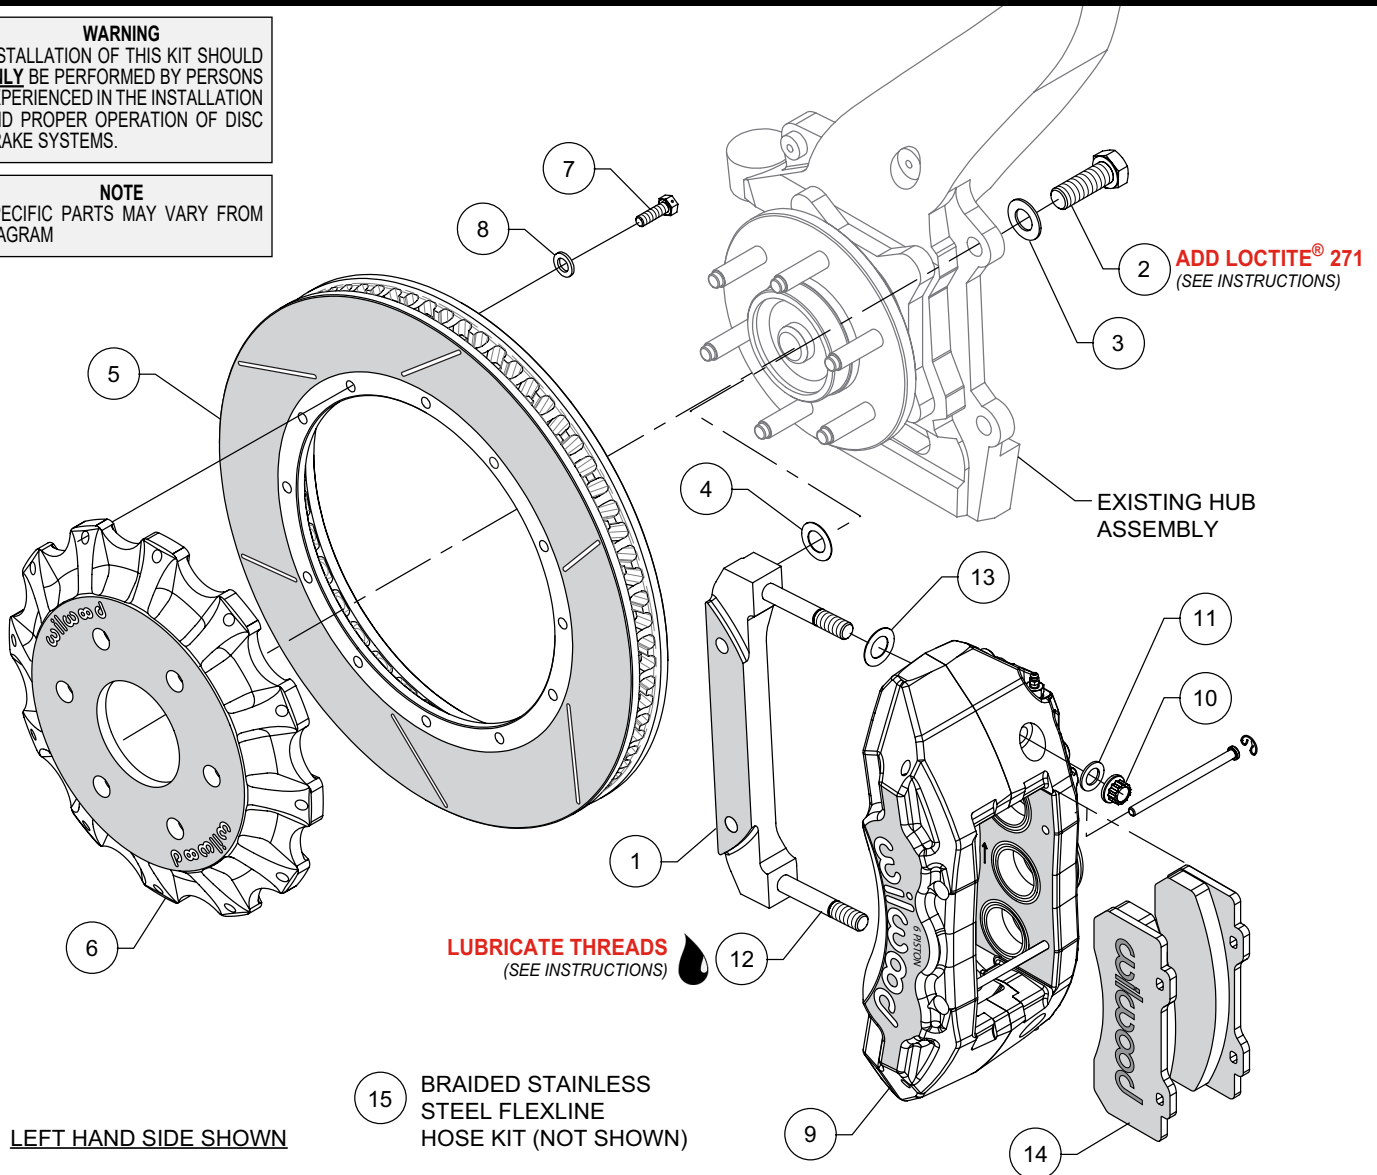
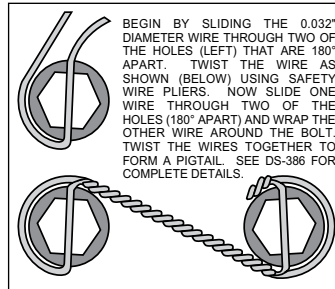

Figure 1. Typical Installation Configuration
Figure 3. Safety Wire Diagram
NOTE: Numbers in parenthesis refer to the parts list and Figure 1 on the preceding pages.
- The caliper mount bracket (1) should initially be installed with clean, dry threads on the mounting bolts. Orient the bracket as shown in Figure 1 and Photo 1, and install using bolts (2) and washers (3). Initially place one .029 thick shim (4) on each bolt between the bracket and upright, Figure 1. Temporarily tighten the mounting bolts. **NOTE:** *The bracket must fit squarely against the mount bosses on the upright.* Inspect for interference from casting irregularities, machining ridges, burrs, etc. Later, after the caliper alignment has been checked, the mount bolts will be secured using red *Loctite*® 271.
- Orient the rotor (5) and the hat (6) as shown in Figure 1 and Photo 2. Attach rotor to hat using bolts (7) and washers (8). Torque bolts to 25 ft-lb using a criss-cross pattern. For an added measure of security, the bolts may be safety wired using standard 0.032 inch diameter stainless steel safety wire as shown in Figure 3. Refer to Wilwood's data sheet DS-386 (available at www.wilwood.com/Pdf/DataSheets/ds386.pdf) for complete safety wire installation instructions.
- NOTE:** *This kit contains distinct right and left hand calipers that must be mounted in a specific direction, as described below.* Lubricate the caliper mounting studs (12) with lightweight oil. Mount the caliper (9) onto the bracket (1) using lock nuts (10) and washers (11), Figure 1. Ensure that the caliper is mounted so that the largest pistons are at the rotor exit end of the caliper, in relation to the direction of rotor rotation. Temporarily tighten the lock nuts and view the rotor through the top opening of the caliper. The rotor should be centered in the caliper, Photo 3. If not, adjust by adding or subtracting shims (4) between the bracket and the upright. Always use the same amount of shims on each of the two mounting bolts. Once the caliper alignment is correct, remove the bracket mounting bolts (2) one at a time, apply red *Loctite*® 271 to the threads, and torque to 77 ft-lb.